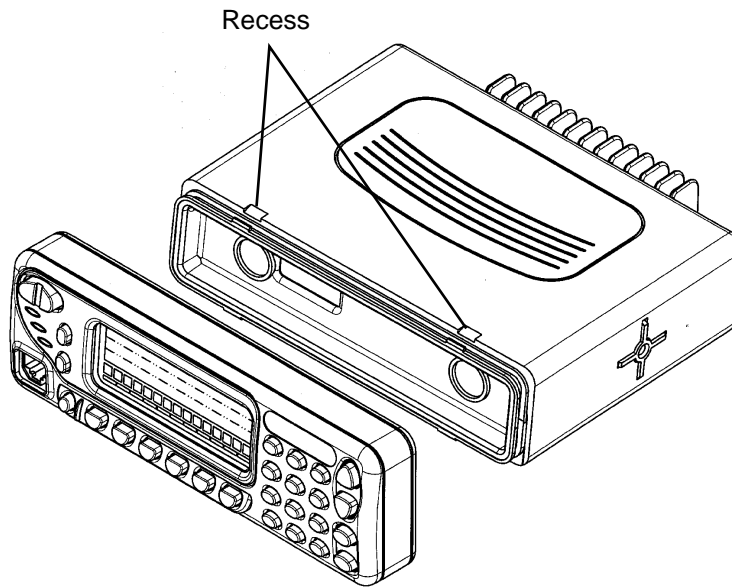

Figure 2-5 Control Head Replacement.
3. Press the control head onto the radio chassis until the protruding tabs on the chassis snap into the recesses inside the control housing, see Figure 2-5.